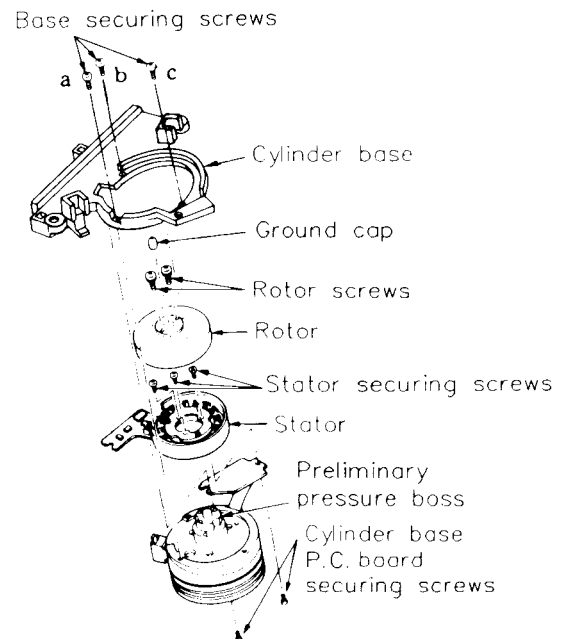

Fig. 4-2-3 Cylinder motor replacement
3. Remove three base securing screws and remove the cylinder base. (Fig. 4-2-3)
5. Remove the rotor screws and the rotor. (Fig. 4-2-3)
8. Replace the rotor. (Tightening torque 3 – 4 kg-cm) (Fig. 4-2-3)
Sequence of tightening base securing screws: tighten screw a first, b and c in any order. (Tightening torque is 3 – 4 kg-cm.) (Fig. 4-2-3)